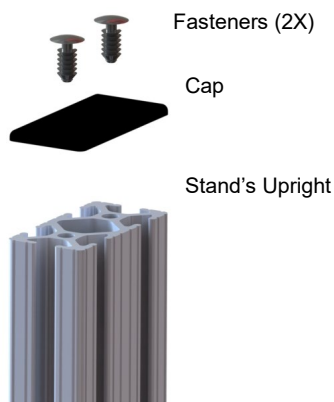

Figure 1. Remove Cap and Fasteners
2. Remove the cap and 2 fasteners from the stand upright (Figure 1). These are push-in fasteners, not screws, and can easily be removed by pushing upward on the plate.